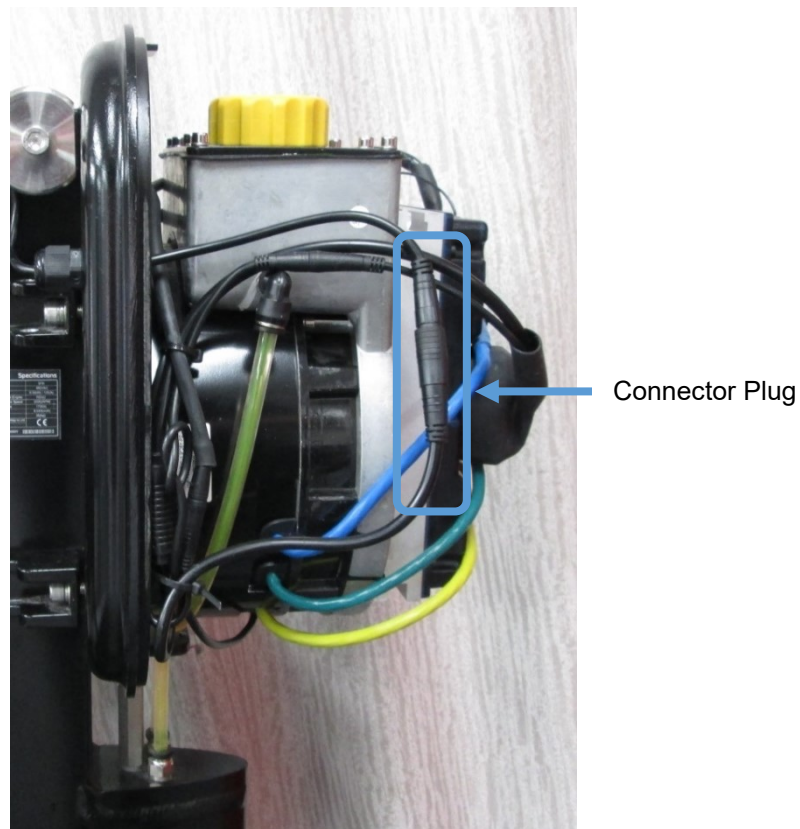

Figure 28: Control Lever connected to Outboard Motor
- The plug on the Control Lever is connected to the plug on the outboard motor (**Figure 28**).